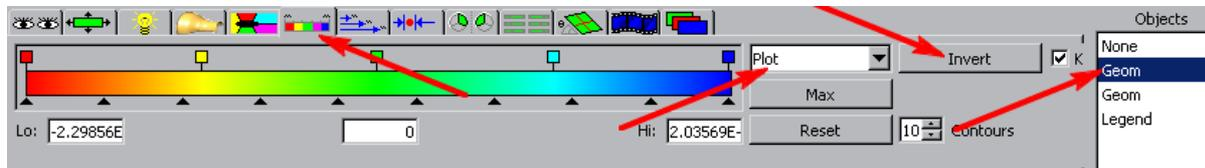
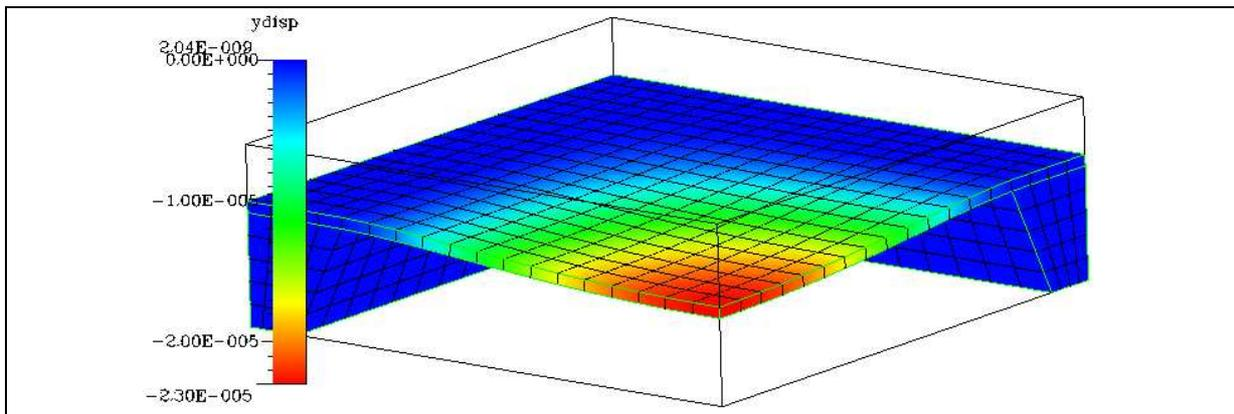

Fig.74. The *Colormap* tab of the format area—remember to select the object in the *Objects* list before modifying colormap properties
Fig.75. The view of the model—colormap modified
- Change the colormap for the drawing. To do so, first: in the *Objects* window select the *Geom* object in our case—see Fig. 74), and second: use the tools under the *Colormap* tab in the format area (see Fig. 74). Change the colors scheme from default *Plot3D* to *Plot* and click on the *Invert* button. An exemplary view of the model with the changed colormap is shown in Fig. 75.